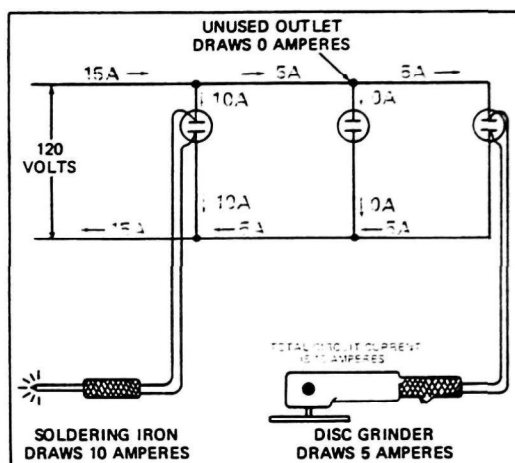

Fig. 7-2. Total current depends on total load.
7.04 Current will not flow through an open circuit, but some current will flow through every complete conducting path provided. Current divides itself among all the loads connected to a circuit according to their resistances. Total circuit current depends on the total load. For example, in a circuit where a soldering iron draws 10 amperes of current and a grinder draws 5 amperes, total circuit current is 15 amperes, divided as shown in Fig. 7-2.